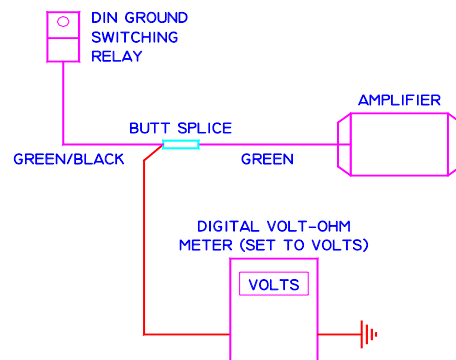

FIG.9
6. Check voltage output of the proportional amplifier. Voltage may be measured using a digital volt-ohm meter set to volts (see figure 9). Check voltage between ground and the amplifier's output butt connector. The butt connector is located between the DIN ground switching relay assembly's green/black wire and the amplifier's green output wire. Voltage outputs should be 12 VDC nominal with pendant trigger released, down to 3 VDC nominal with pendant trigger pulled. To register these readings, system must be turned on, pendant trigger potentiometer voltage must be correct and amplifier must be turned on with red L.E.D. light lit. The setting of the amplifier's high and low voltage dials affects both the 12 VDC and 3 VDC nominal readings. Amplifier's high voltage dial affects 3 VDC nominal reading, (trigger pulled) while low voltage dial affects 12 VDC nominal reading (trigger released).